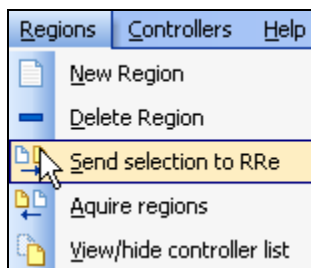

Figure 33.2.13
- In the toolbar of the IR-Interface window select **Regions** and scroll down to **Send selection to RRe** and click on it (Figure 33.2.13).